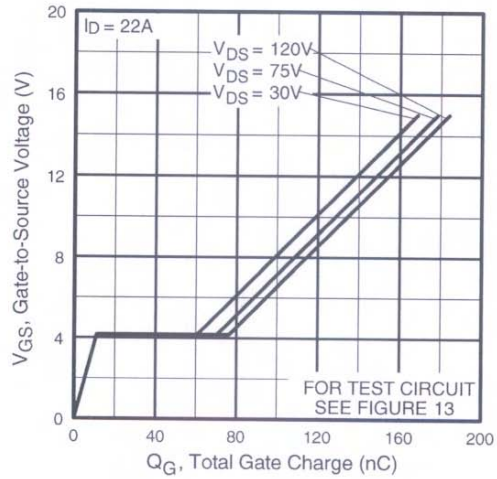

Fig 6. Typical Gate Charge Vs. Gate-to-Source Voltage
| Q_{gd} | Gate-to-Drain ("Miller") Charge | — | — | 98 | | $V_{GS} = 10V$, See Fig. 6 and 13 ④⑤ |